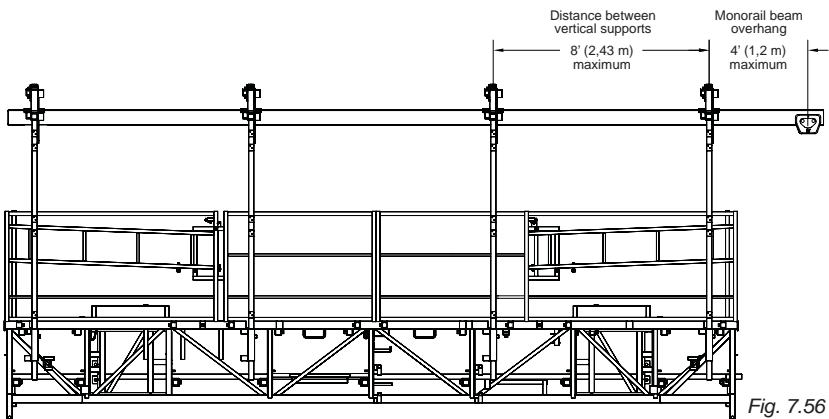

Fig. 7.56
- 1- Follow steps 1 through 3 of the installation procedure for the bottom support structure on p. 83 for each bottom support tube required by the setup. The distance between two bottom supports must not exceed 8' (2,4 m), as shown in fig. 7.56.
- 5- Make sure that the monorail beam overhang does not exceed 4' (1,2 m), as shown in fig. 7.56, on p. 87.